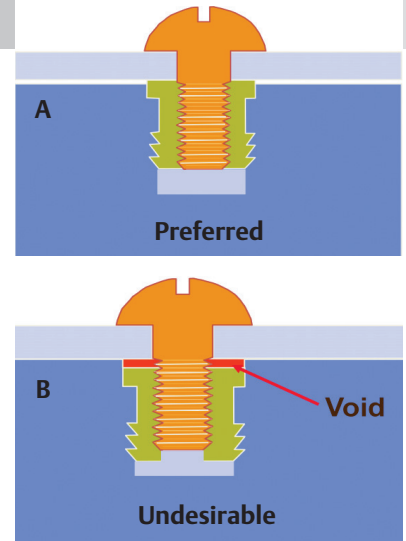

Figure 4 – “jack-out” prevention
- After seating, the top of the insert should be flush or slightly above the surface of the part for maximum pullout strength and torque resistance (Figure 4). This will also prevent the possibility of a “jack-out” condition.